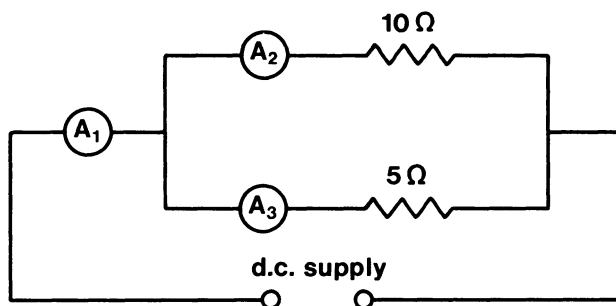

FIG. 3.11
7. In the circuit shown in Fig. 3.11 ammeter  $A_2$  reads 4 A.